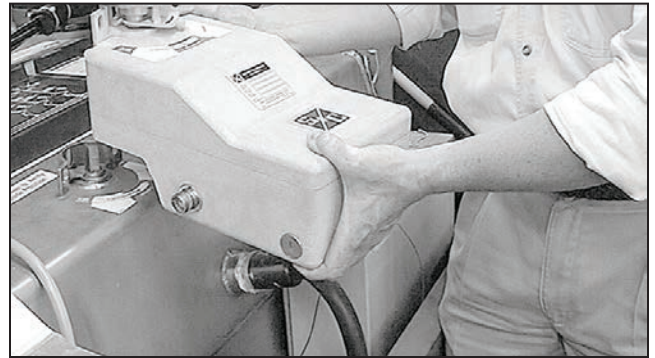

Figure 30. Place the motor operator over the operating shaft on the gear.
STEP 1. Place each motor operator over the operating shaft on the gear. See Figure 30.